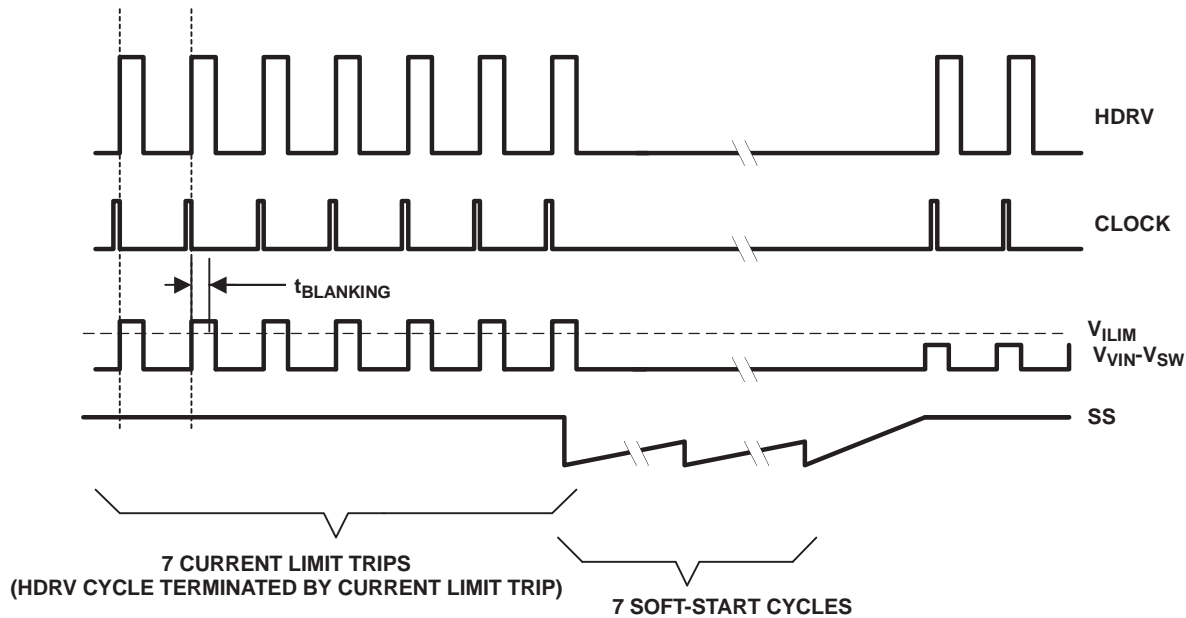

Figure 9. Typical Current Limit Protection Waveforms
The second tier consists of a fault counter. The fault counter is incremented on an overcurrent pulse and decremented on a clock cycle without an overcurrent pulse. When the counter reaches seven (7) a restart is issued and seven soft-start cycles are initiated. Both the upper and lower MOSFETs are turned off during this period. The counter is decremented on each soft-start cycle. When the counter is decremented to zero, the PWM is re-enabled. If the fault has been removed the output starts up normally. If the output is still present the counter counts seven overcurrent pulses and re-enters the second-tier fault mode. See Figure 9 for typical overcurrent protection waveforms.